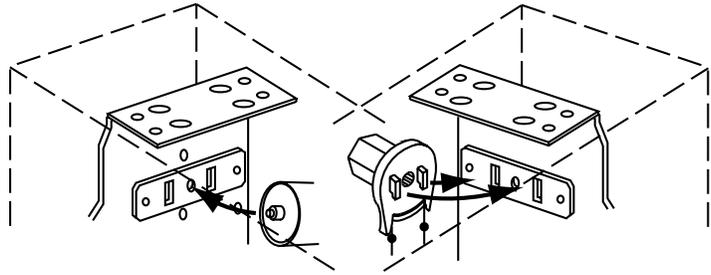

Figure 5
- ① Insert spring-loaded pin of upper roller into pin-end bracket. Supporting pin-end bracket with your free hand, push roller/fabric assembly toward bracket to compress spring-loaded pin, and slip the clutch end tabs into slots on bracket (see Fig. 5).